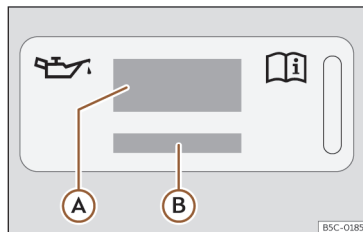
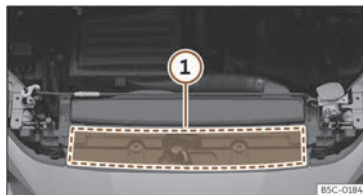

Fig. 197 In the engine compartment: engine oil label
Fig. 198 In the engine compartment: area where the engine oil label is located
Key to the >>> **Fig. 197:**
If the engine oil has to be topped up, use one of the oils shown on the label >>> **Fig. 197**. The label with the prescribed standard is located at the front of the engine compartment >>> **Fig. 198** ①. If you use the recommended engine oil, you can top up the oil as often as necessary.
- If the label showing the engine oil specifications is missing >>> Fig. 197, please contact a specialist workshop.